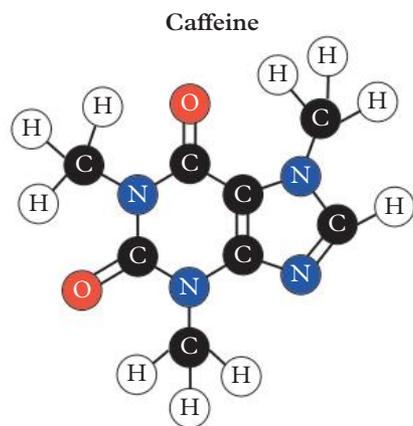

FIGURE 3 Carbon can bond with other carbon atoms to form molecules made up of carbon chains and rings – such as caffeine.
- bond with other carbon atoms to produce long carbon chains or rings (Figure 3)